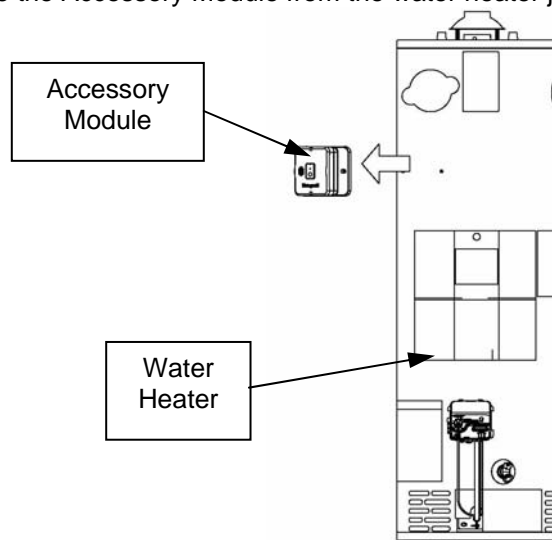

Figure 6
Step 6: Remove the Accessory Module from the water heater jacket, as shown in Figure 6.